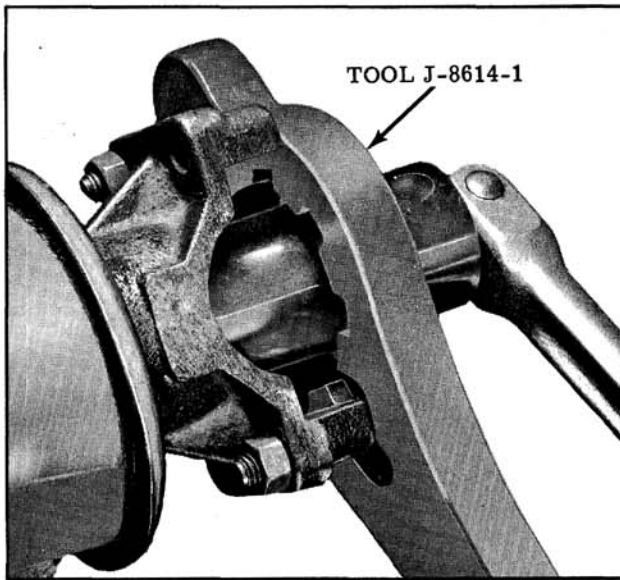

Fig. 10-1 Removing Companion Flange Nut
4. Remove companion flange nut, using Tool J-8614-01 to hold flange. (Fig. 10-1) Remove washer.
4. Remove companion flange nut using Holding Tool J-8614-01 to hold flange. (Fig. 10-1)